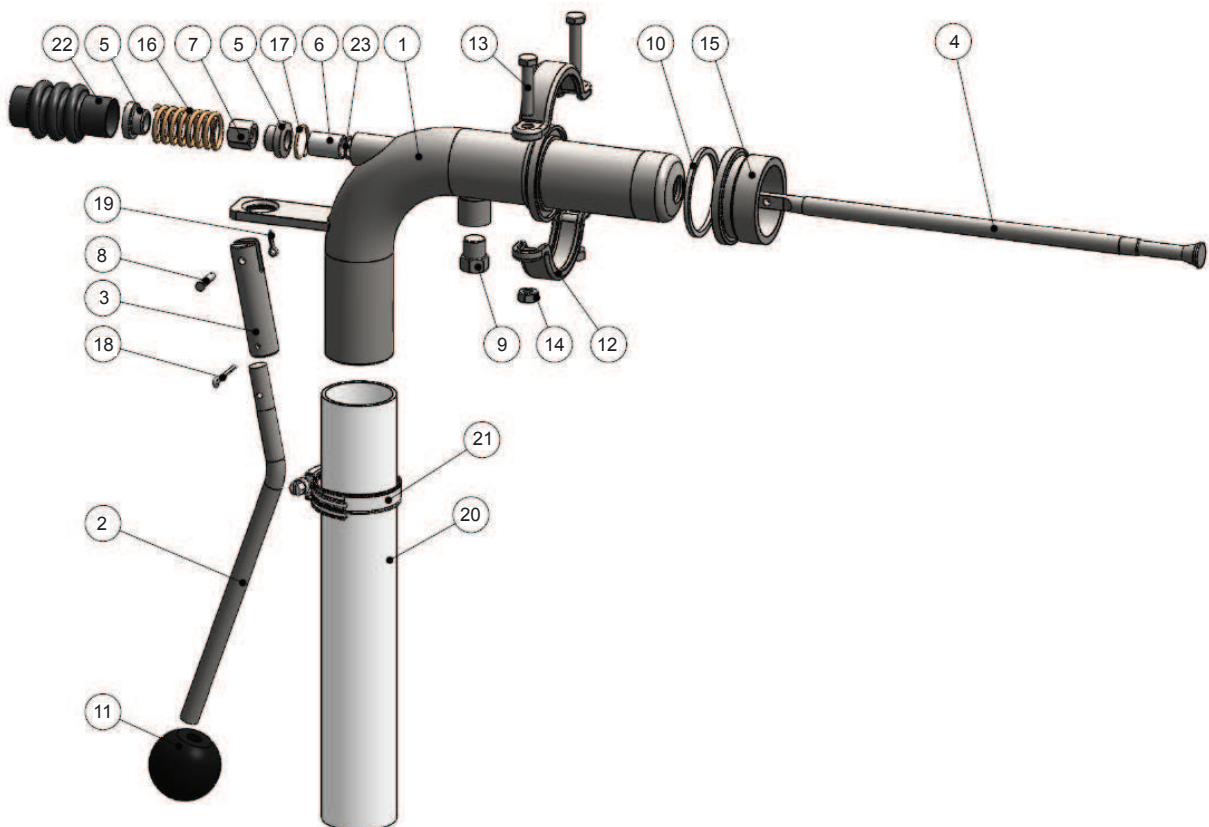
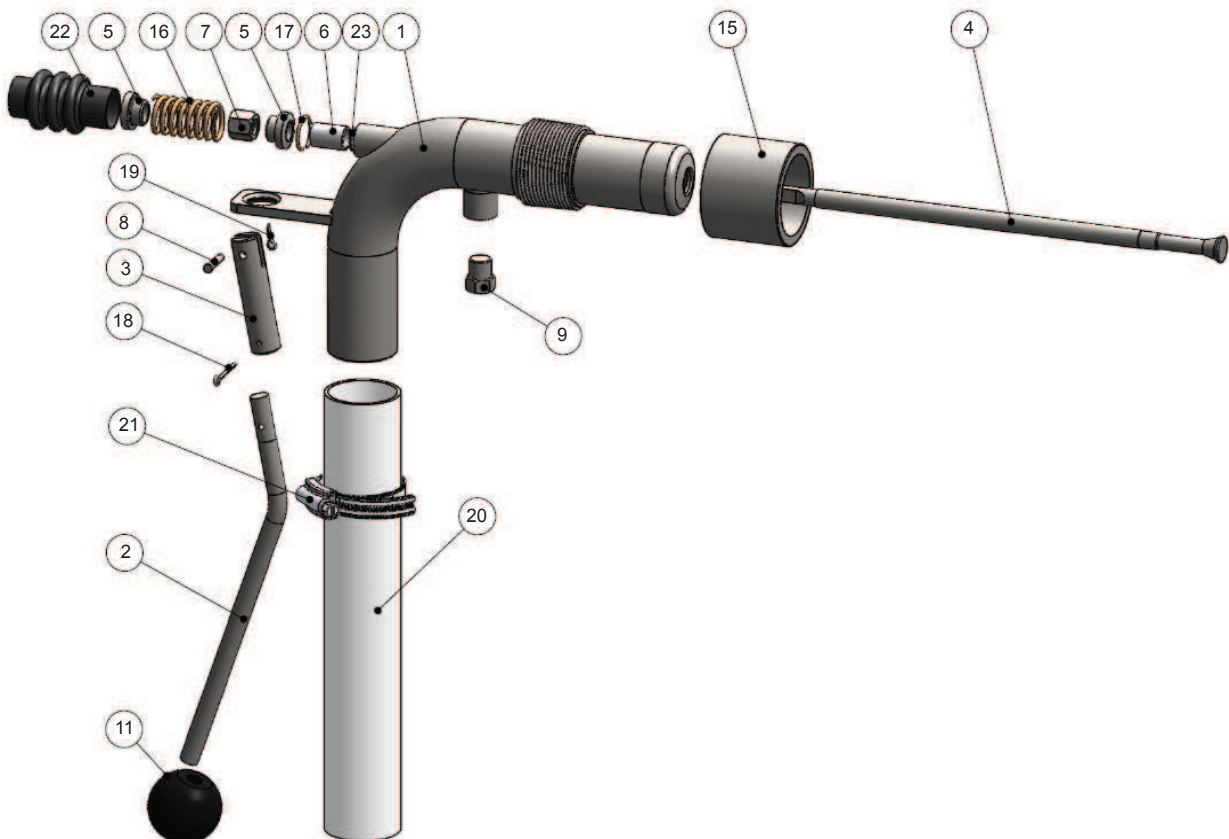

Figure 6-1 SAVE SA 2 2 MD 0
Figure 6-3 SAVE TA 2 0 MD 0
Refer to the selection chart in Technical Specifications. The construction of different types is shown in Figures 6-1 ...6-4 in Section 6.
SAVE is available in three types, depending on the mounting method: clamp-, thread- and flange-mounted types. All types are available with either manual or pneumatic cylinder, see Figures 6-1 and 6-2.
Figures 6-1 and 6-2 show clamp-mounted SAVE types with NS 40 flanges. Figure 6-3 shows SAVE TA with 1½" NPT thread mounting.
- SAVE function MD, Figures 6-1 and 6-3
Replacing the bearing sleeve (6) and O-ring (23), Figures 6-1, 6-2 and 6-3